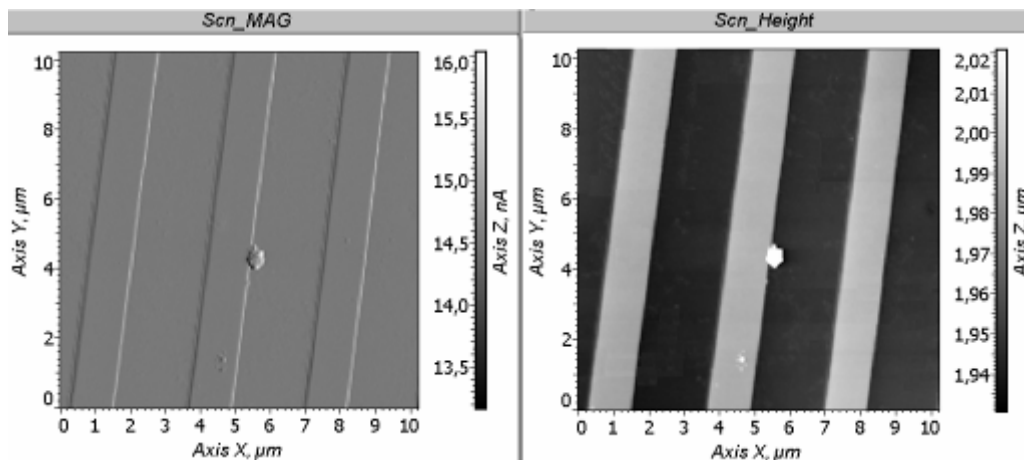

Fig. 4-51
3. **During the sample scanning** two images should be present in “SPM images field” (Fig. 4-51): **MAG** signal image on the left and the topography image (obtained using **SemiContact Mode**) on the right.
Below (Fig. 4-51) is the exemplary image of **MAG** signal (**Error signal**) and the image of topography (**SemiContact Mode**), obtained simultaneously during scanning of one and the same area of sample surface (a standard rectangular TGZ-1 grid, the increment of 3 mcm with the step height of 19 nm).